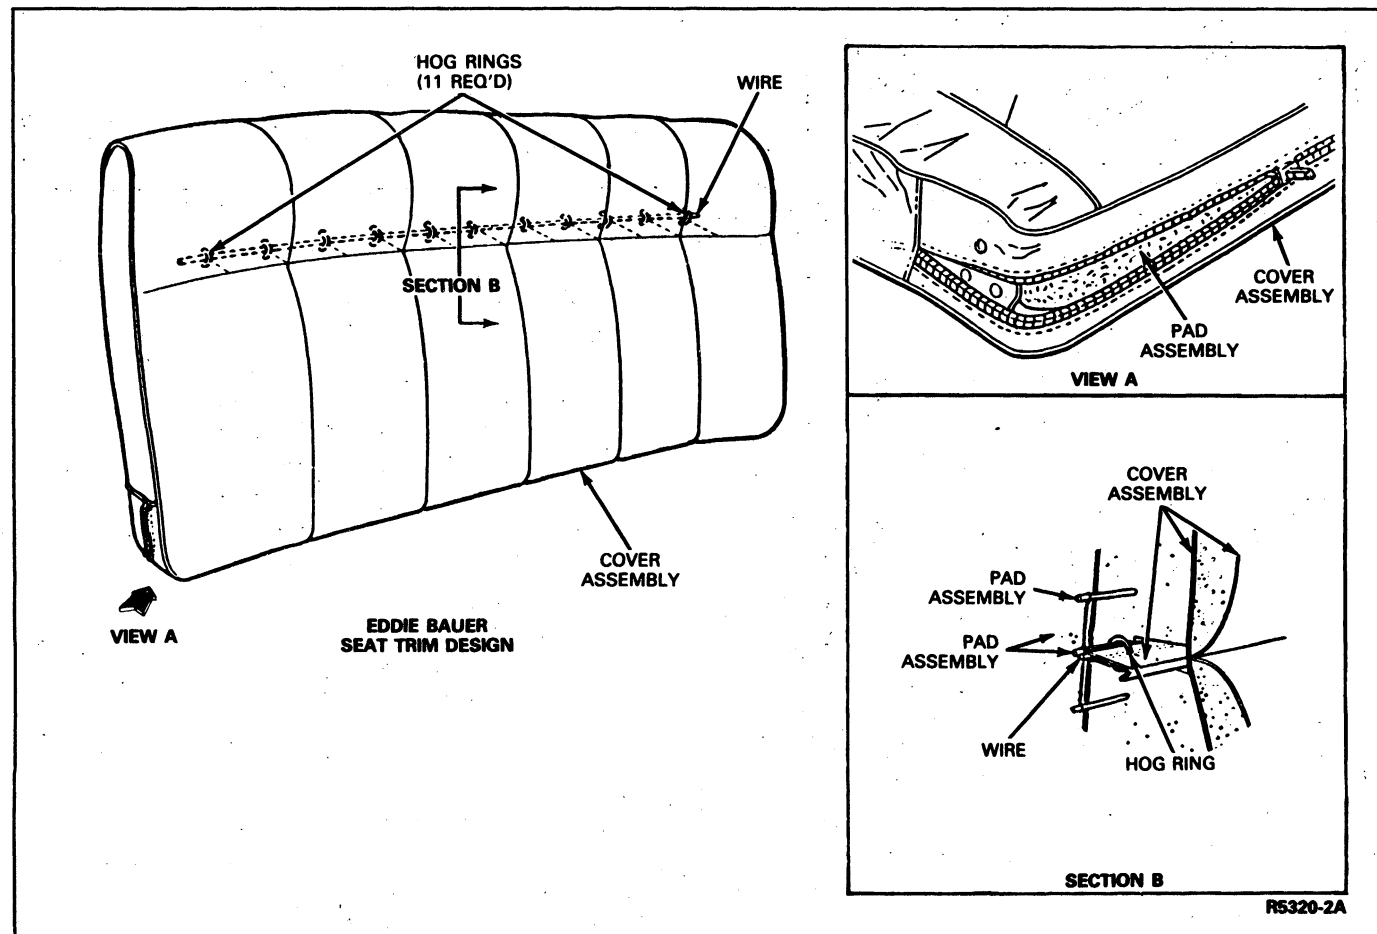

FIG. 13 Rear Seat Back Cover Assembly—Bronco
2. Cut the hog rings attaching the cover to the seat back or cushion spring assembly (Figs. 13, 14, 15 and 16). Remove the seat back cover.